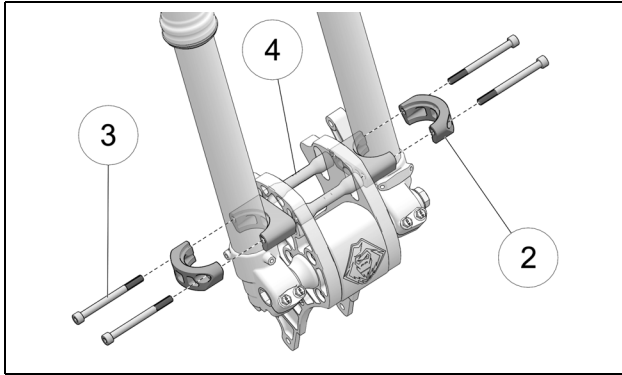

Figure 12
- Position outer clamps (2) on forks. Clearance bore must face upward. Insert assembly bolts (3) through inner and outer clamps. Thread bolts in cross shafts (4). Do not tighten assembly. See Figure 12.